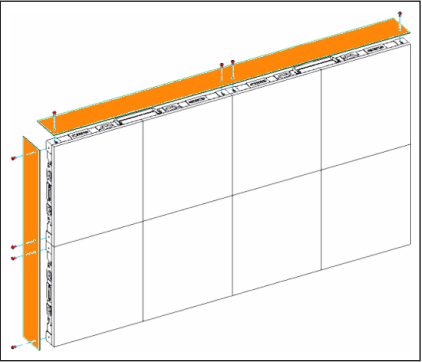

Figure 3: Install Flat Border
4. Bring the border into position. The holes should be oriented toward the front of the display to align with the threaded holes in the panels. Refer to **Figure 3**.